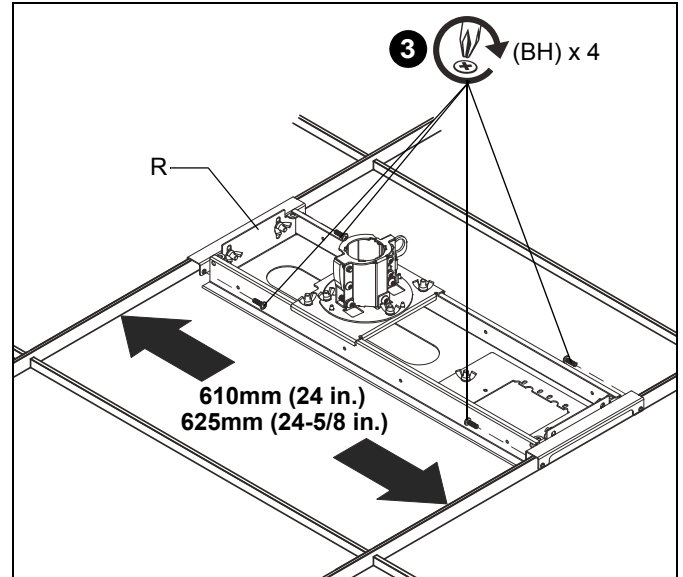

Figure 14
2. **Installing on Top of Existing Ceiling Tile only:** Reinstall ceiling plate assembly (R) on top of ceiling tile so that extension column support is centered over hole in tile.
3. Position ceiling plate assembly (R) with four screws (BH) as required:
- **For 625mm (24-5/8 in.) Framework:** Install screws through end bracket *inside* holes. (See Figure 14)
- **For 610mm (24 in.) Framework:** Install screws through end bracket *inside* holes. (See Figure 14)